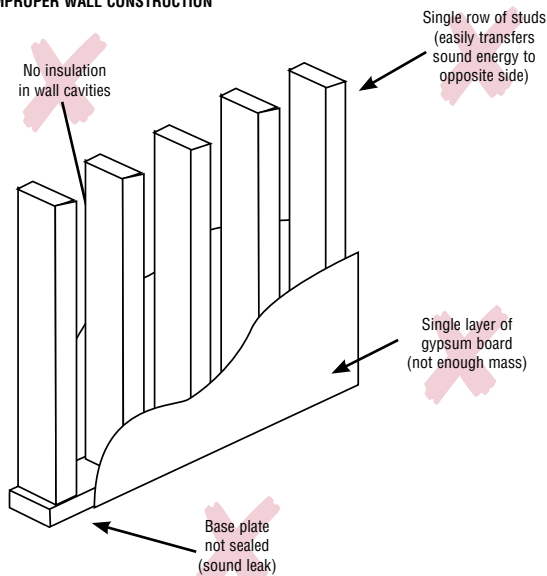

FIGURE 7
- Start by inspecting your walls. Look for visible gaps or openings. Have someone go to the other side of your wall and generate noise, then pinpoint your trouble spots. To the best of your ability, determine the composition of your walls. Are they cement block? Some lightweight cement block is very porous and can actually transfer a great deal of sound. If you have wood or metal studs and a single layer of gypsum board without insulation, you will probably hear significant noise right through them (figure 7).